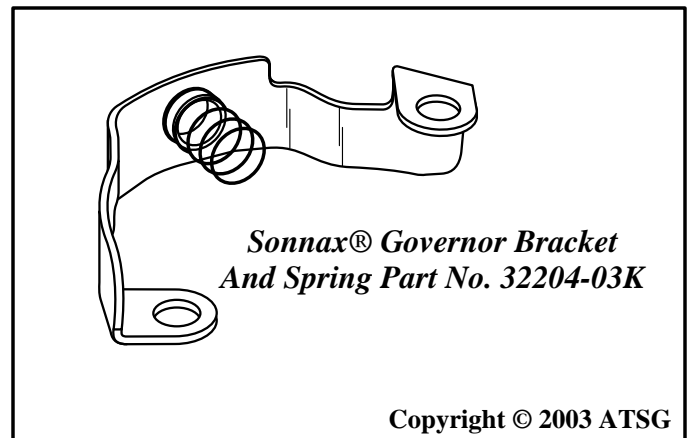

Figure 114
- Note: This unit is bad about the governor valve sticking and creating high gear starts. There is available from Sonnax® a bracket and spring kit, under part number 32204-03K, that will remedy this concern, and illustrated in Figure 114. This bracket and spring kit must be installed under two of the bolts.*